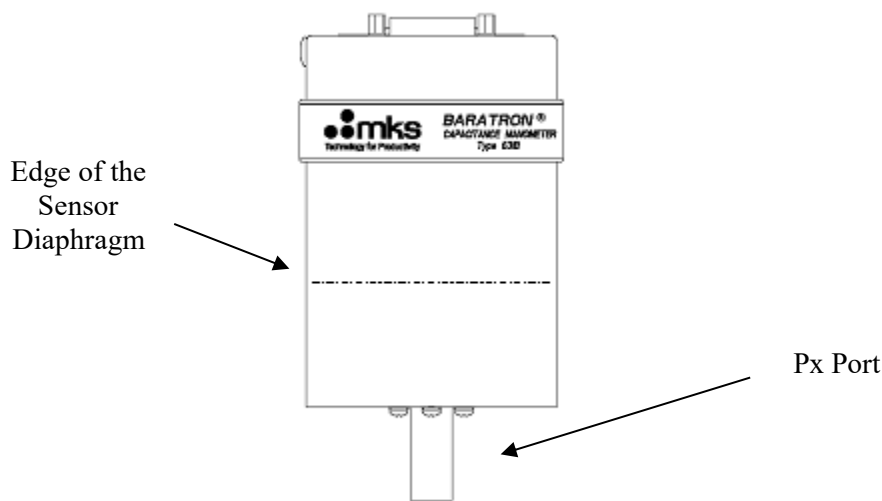

Figure 1: Recommended Orientation of the Type 631F Transducer
- Mount the Type 631F transducer components correctly: refer to Figure 1: Recommended Orientation of the Type 631F Transducer, page 26, for the recommended orientation of the sensor
The 631F transducer can be installed in any orientation as long as the inlet tube is not facing upwards. However, for best results, it is recommended that the Px port of the unit face downward (as shown in Figure 1) to reduce the chance of contaminants entering the device and degrading its performance. The sensor is zeroed at the factory in the vertical orientation (shown in Figure 1). You should zero the unit again after installation, following the steps in *How To Zero the Type 631F Transducer*, page 37.
If you anticipate vibration, orient the plane of the diaphragm *parallel with* the major oscillating axis. The edge of the diaphragm is indicated by the dashed line in Figure 1.